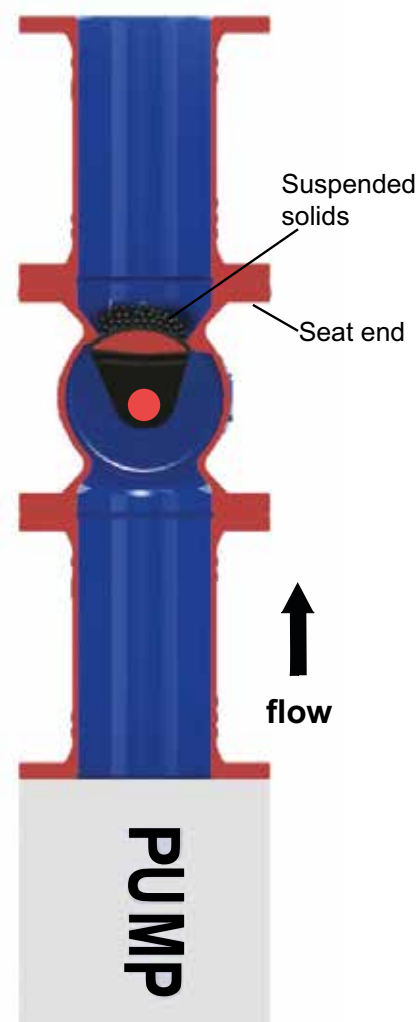

Fig.3 Vertical installation
2. For vertical installations, it is recommended that the seat faces in the direction of flow and with the flow acting from the direct pressure side. The plug rotates in the upwards direction until it reaches the fully closed position. This operation prevents accumulated solids draining back into the body. (See figure 3)